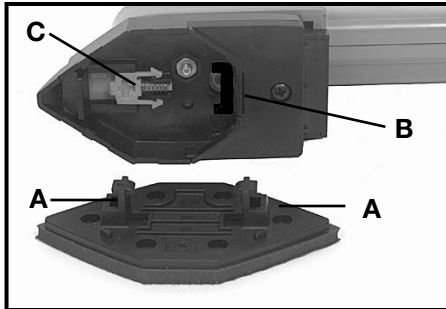

Fig. 7
All of the accessory pads and profile mounting plates are attached to the tool in the same way. Each pad or mounting plate has two posts (A) Fig. 7 used to attach it to the Profile Sander.
One pad post fits into a pocket (B) Fig. 7 in the tool, and the other post is locked into place by a tab (C) Fig. 7. The mounting post area (of all the pads and mounting plates) is symmetrical. The pad (or mounting plate) can be attached to the Profile Sander with either end forward, which allows the use of both pointed ends of each sheet of pad abrasive, and permits the profile holders to be mounted in the best position for each particular application.
1. Position one of the pad (or mounting plate) posts (A) Fig. 7 into the pocket (B) Fig. 7 of the Profile Sander (Fig. 8).